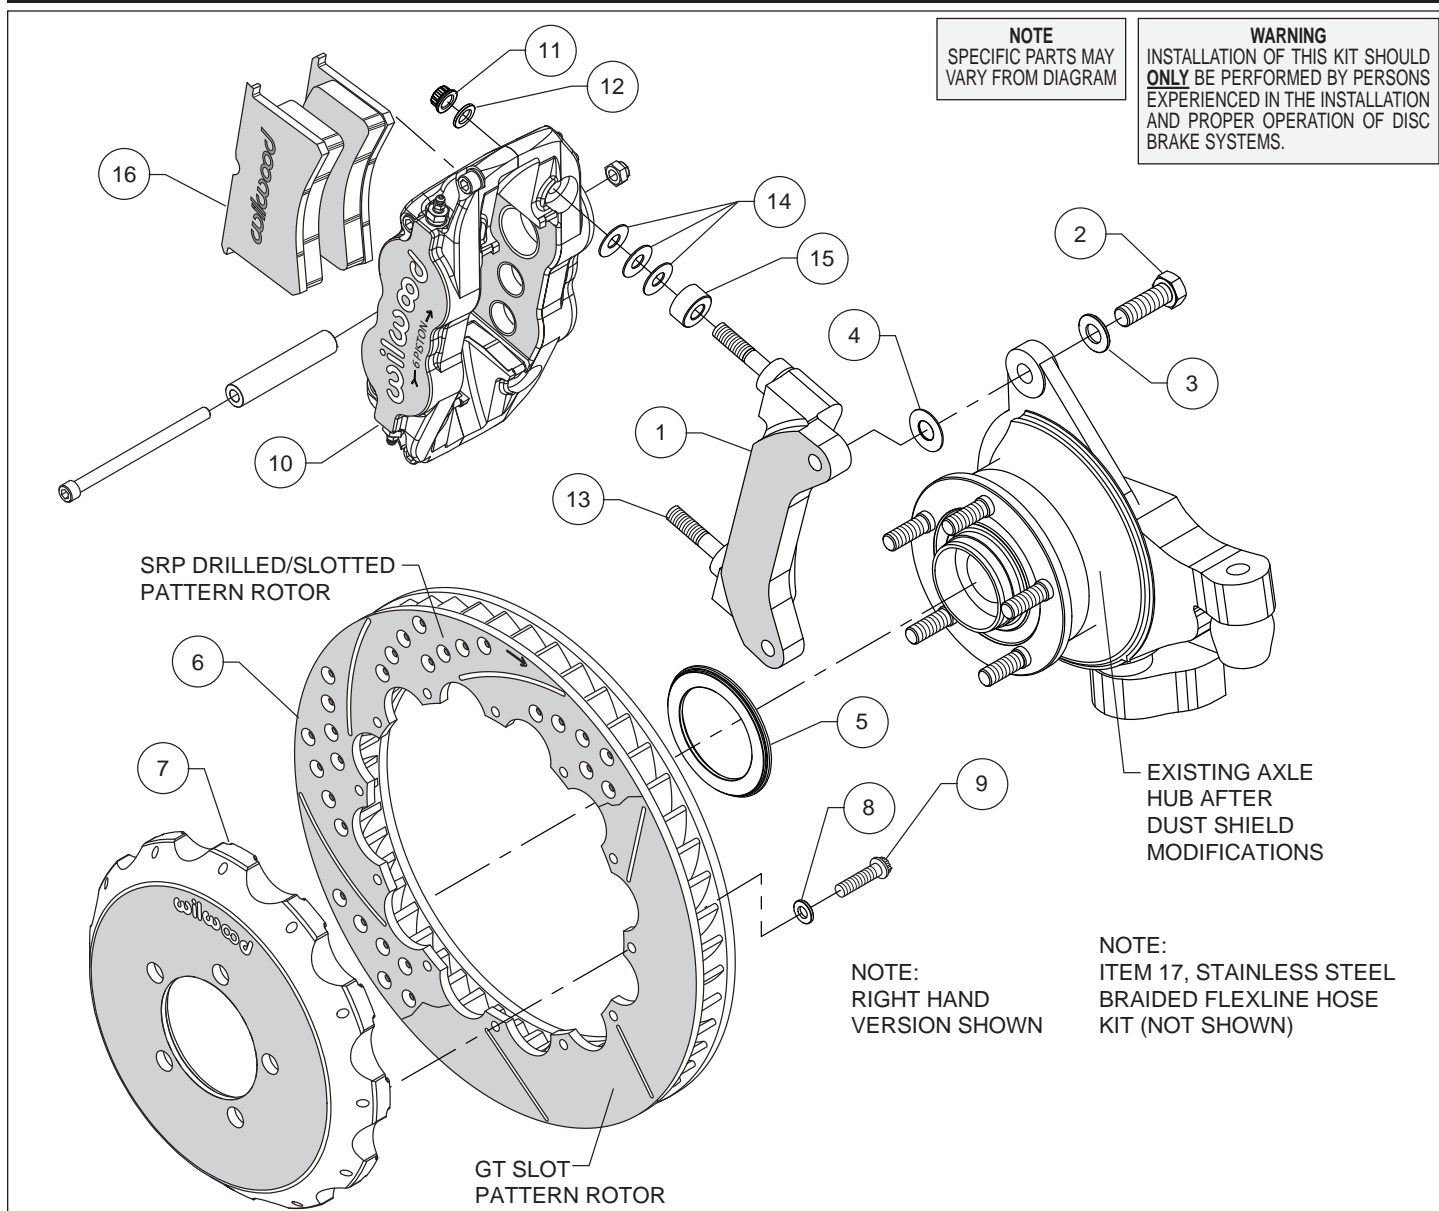
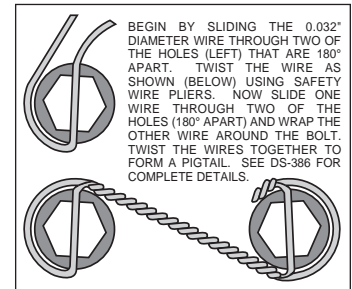

Figure 1. Typical Installation Configuration
Figure 4. Safety Wire Diagram
Assembly Instructions (numbers in parenthesis refer to the parts list and Figure 1 on the preceding pages):
- The caliper mount bracket (1) should initially be installed with clean, dry threads on the mounting bolts. Orient the bracket as shown in Figure 1, and install using washers (3) and bolts (2). Initially place one shim (4) on each bolt between the bracket and upright, Figure 1. Temporarily tighten the mounting bolts. **NOTE:** The bracket must fit squarely against the mount bosses on the upright. Inspect for interference from casting irregularities, machining ridges, burrs, etc. Later, after the caliper alignment has been checked, the mount bolts will be secured using red Loctite® 271.
- Orient the rotor (6) and the hat (7) as shown in Figure 1 and Photo 1. Attach rotor to hat using bolts (9) and washers (8). Using an alternating sequence, apply red Loctite® 271 to the threads, and torque to 155 in-lbs. For an added measure of security, the bolts may be safety wired using standard 0.032 inch diameter stainless steel safety wire as shown in Figure 4. Please refer to Wilwood's data sheet DS-386 (available at www.wilwood.com/Pdf/DataSheets/ds386.pdf) for complete safety wire installation instructions.
- Slide the rotor registration adapter (5) onto the axle register on the axle hub with the smaller O.D. facing outward, Photo 2. Slide the hat/rotor assembly onto the axle hub. **NOTE:** The hat must fit flush against the axle hub flange or excessive rotor run out may result. Install three lug nuts (finger tight) to keep the hat/rotor assembly in place while continuing with the installation.
- NOTE:** This kit contains distinct right and left hand calipers that must be mounted in a specific direction, as described below. Lubricate the caliper mounting studs (13) with lightweight oil. Initially place three .035" thick shims (14) and spacer (15) on each stud as shown in Figure 1 and Photo 3. Mount the caliper (10) onto the bracket (1) using lock nuts (11) and washers (12), Figure 1. Ensure that the caliper is mounted so that the largest pistons are at the rotor exit end of the caliper, in relation to the direction of rotor rotation. Temporarily tighten the lock nuts and view the rotor through the top opening of the caliper. The rotor should be centered in the caliper, Photo 4. If not, adjust by adding or subtracting shims (4) between the bracket and the upright. Always use the same amount of shims on each of the two mounting bolts. Once the caliper alignment is correct, remove the bracket mounting bolts (2) one at a time, apply red Loctite® 271 to the threads, and torque to 60 ft-lb.